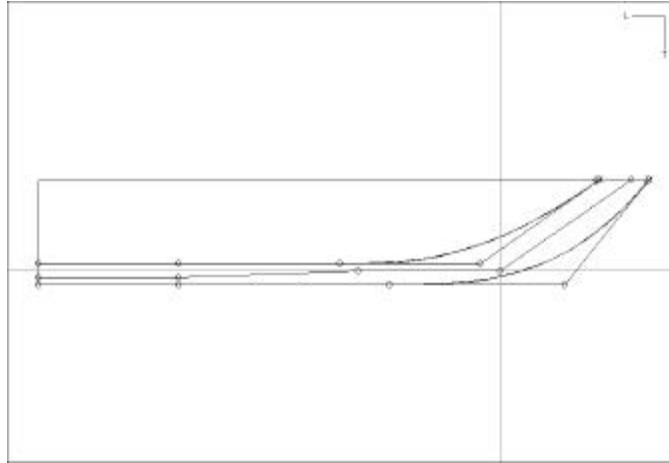

Figure 1-13: Editing column 1 of Topside surface
5. In the top view, move the *second vertex* (Row 1, Col 1), and perhaps the third also, aft and inboard slightly. (See figure 1-13.)